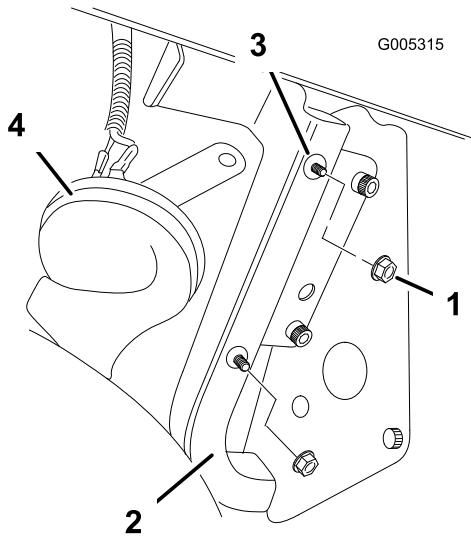

Figure 3
2. Remove the nuts securing the solenoid plate to the frame under the dash (Figure 3).